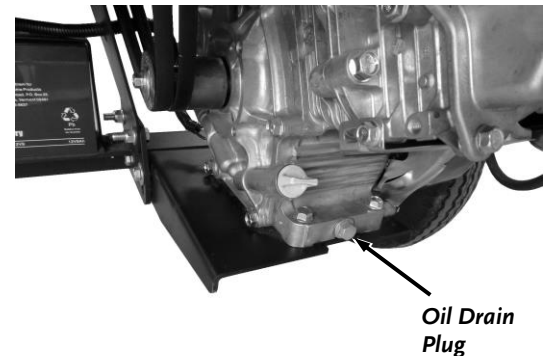

Figure 20
2. Remove the Oil Drain Plug with a 10mm Wrench to drain the Oil into the Container (**Figure 20**).